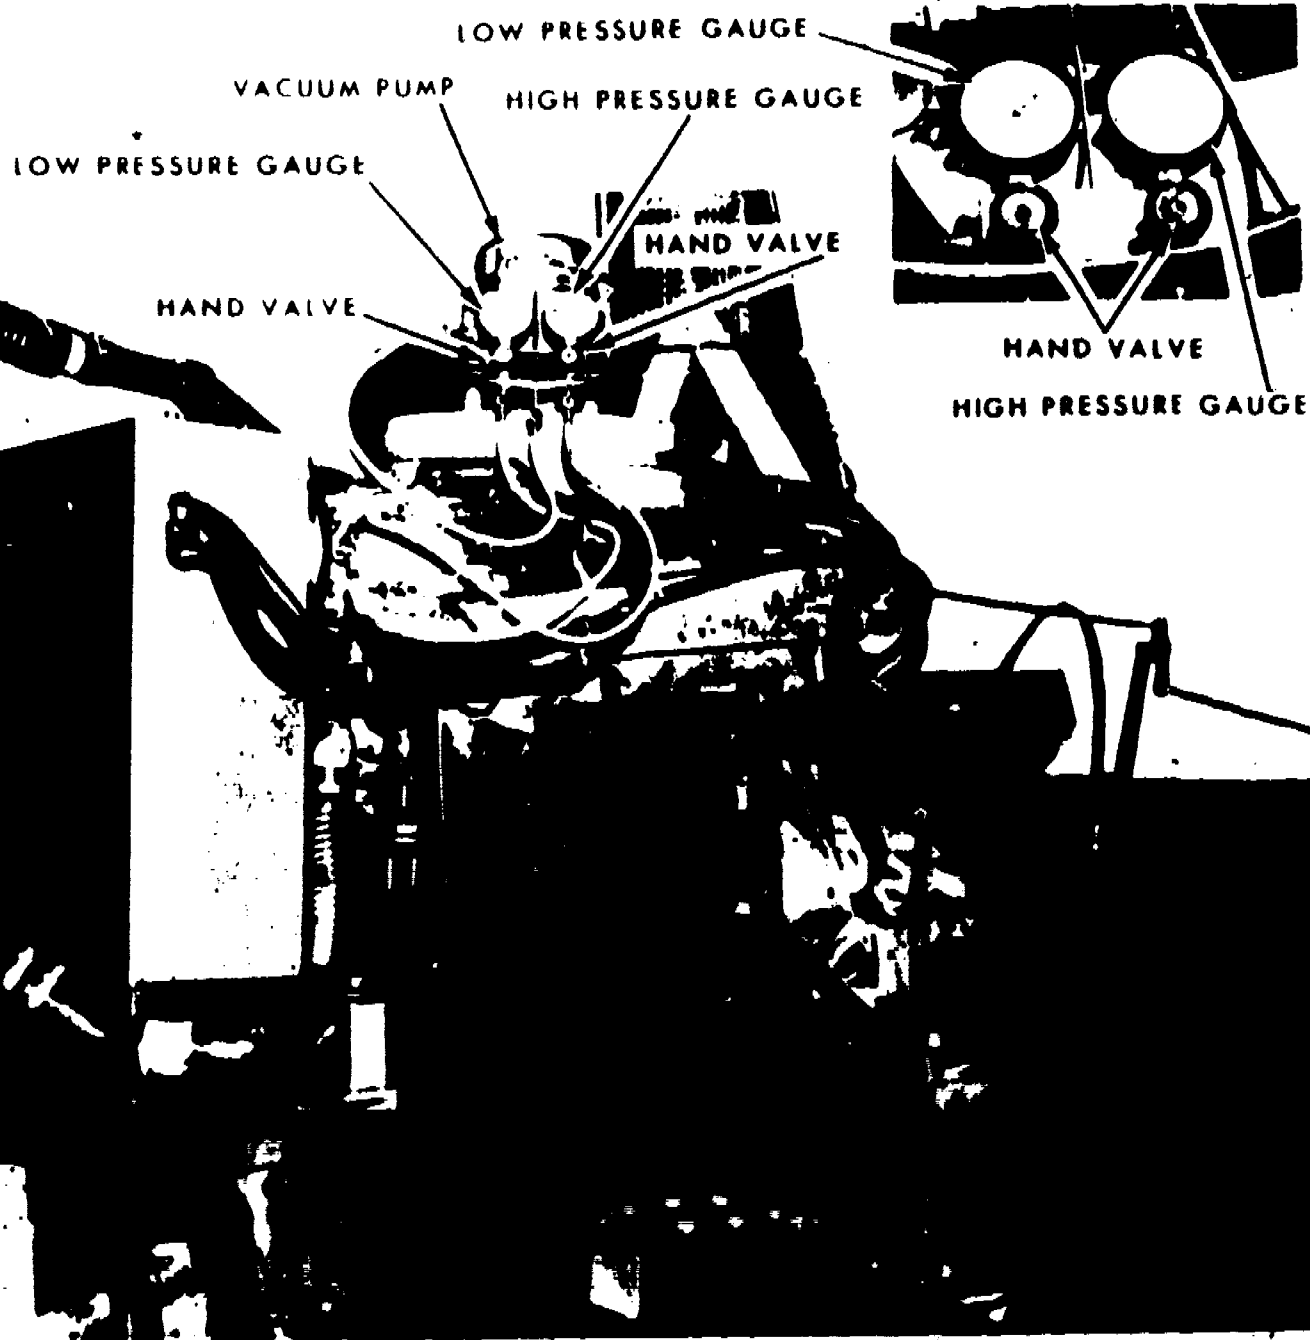

Figure 82. Gauge Set Hookup to Hand-Operated Valves for Evacuating.
5. Connect the high pressure gauge hose of the serviceman's gauge set to the gauge port opening of the discharge valve located on the compressor head, see figure 82.
6. Connect the low pressure gauge hose of the serviceman's gauge set to the gauge port opening of the suction valve located on the compressor head, see figure 82.
9. Connect the center hose from the serviceman's gauge set to a good vacuum pump, see figure 82.